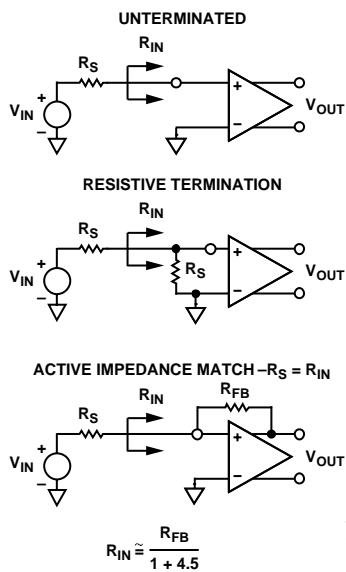
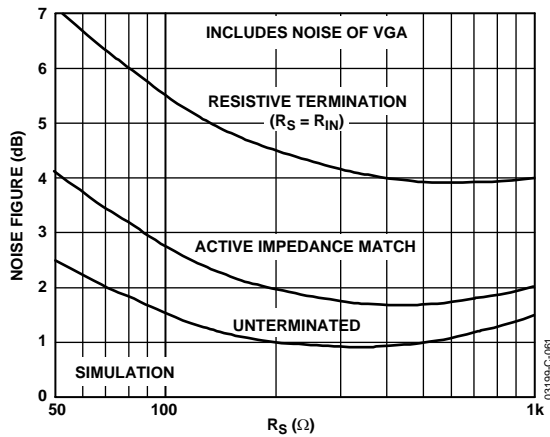
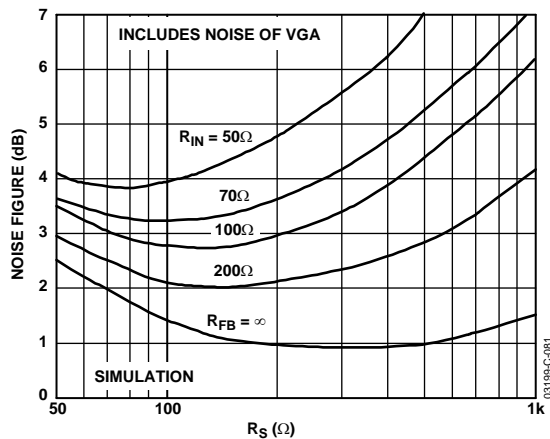

Figure 60. Input Configurations
Figure 61. Noise Figure vs. R_S for Resistive, Active Matched, and Underterminated Inputs
Figure 62. Noise Figure vs. R_S for Various Fixed Values of R_{IN} , Actively Matched
The input-referred voltage noise sets an important limit on system performance. The short-circuit input voltage noise of the LNA is 0.74 nV/ $\sqrt{\text{Hz}}$ or 0.82 nV/ $\sqrt{\text{Hz}}$ (at maximum gain), including the VGA noise. The open-circuit current noise is 2.5 pA/ $\sqrt{\text{Hz}}$. These measurements, taken without a feedback resistor, provide the basis for calculating the input noise and noise figure performance of the configurations in Figure 60. Figure 61 and Figure 62 are simulations extracted from these results, and the 4.1 dB NF measurement with the input actively matched to a 50 Ω source. Unterminated ($R_{FB} = \infty$) operation exhibits the lowest equivalent input noise and noise figure. Figure 61 shows the noise figure versus source resistance, rising at low R_S , where the LNA voltage noise is large compared to the source noise, and again at high R_S due to current noise. The VGA's input-referred voltage noise of 2.7 nV/ $\sqrt{\text{Hz}}$ is included in all of the curves.
The primary purpose of input impedance matching is to improve the system transient response. With resistive termination, the input noise increases due to the thermal noise of the matching resistor and the increased contribution of the LNA's input voltage noise generator. With active impedance matching, however, the contributions of both are smaller than they would be for resistive termination by a factor of $1/(1 + LNA\ Gain)$. Figure 61 shows their relative noise figure (NF) performance. In this graph, the input impedance has been swept with R_S to preserve the match at each point. The noise figures for a source impedance of $50\ \Omega$ are 7.1 dB, 4.1 dB, and 2.5 dB, respectively, for the resistive, active, and unterminated configurations. The noise figures for $200\ \Omega$ are 4.6 dB, 2.0 dB, and 1.0 dB, respectively.
Figure 62 is a plot of the NF versus R_S for various values of R_{IN} , which is helpful for design purposes. The plateau in the NF for actively matched inputs mitigates source impedance variations. For comparison purposes, a preamp with a gain of 19 dB and noise spectral density of a $1.0\ nV/\sqrt{Hz}$, combined with a VGA with $3.75\ nV/\sqrt{Hz}$, would yield a noise figure degradation of approximately 1.5 dB (for most input impedances), significantly worse than the AD8332 performance.